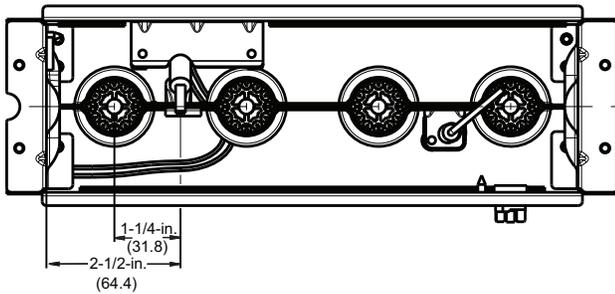

Fig. 8 - Igniter Position - Back View
4. Verify igniter to burner alignment. See Fig. 8 and 9.